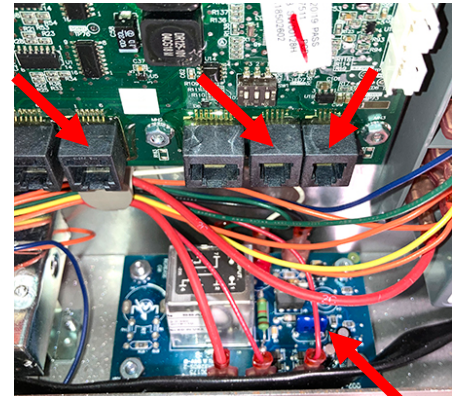

Figure 12
14. Disconnect the lower cables from the SIB board, to ease access to the time delay relay board, marking or making a note of the connectors to facilitate reconnection (see Figure 12).